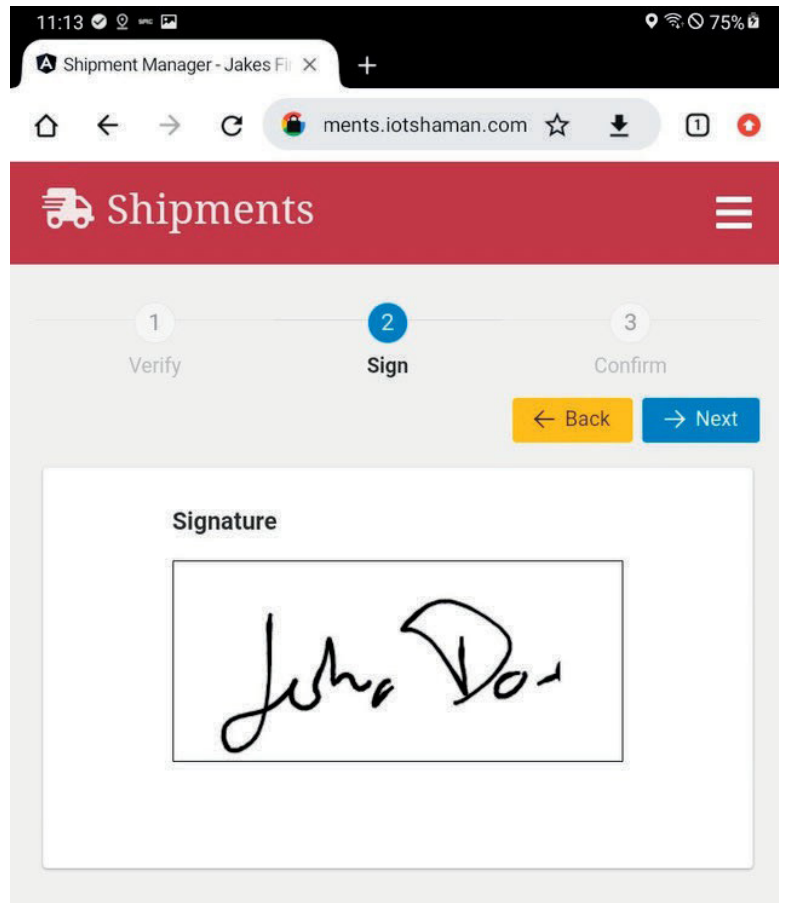

Figure 18
- c. Sign in the Signature Box, then click NEXT (Figure 18).